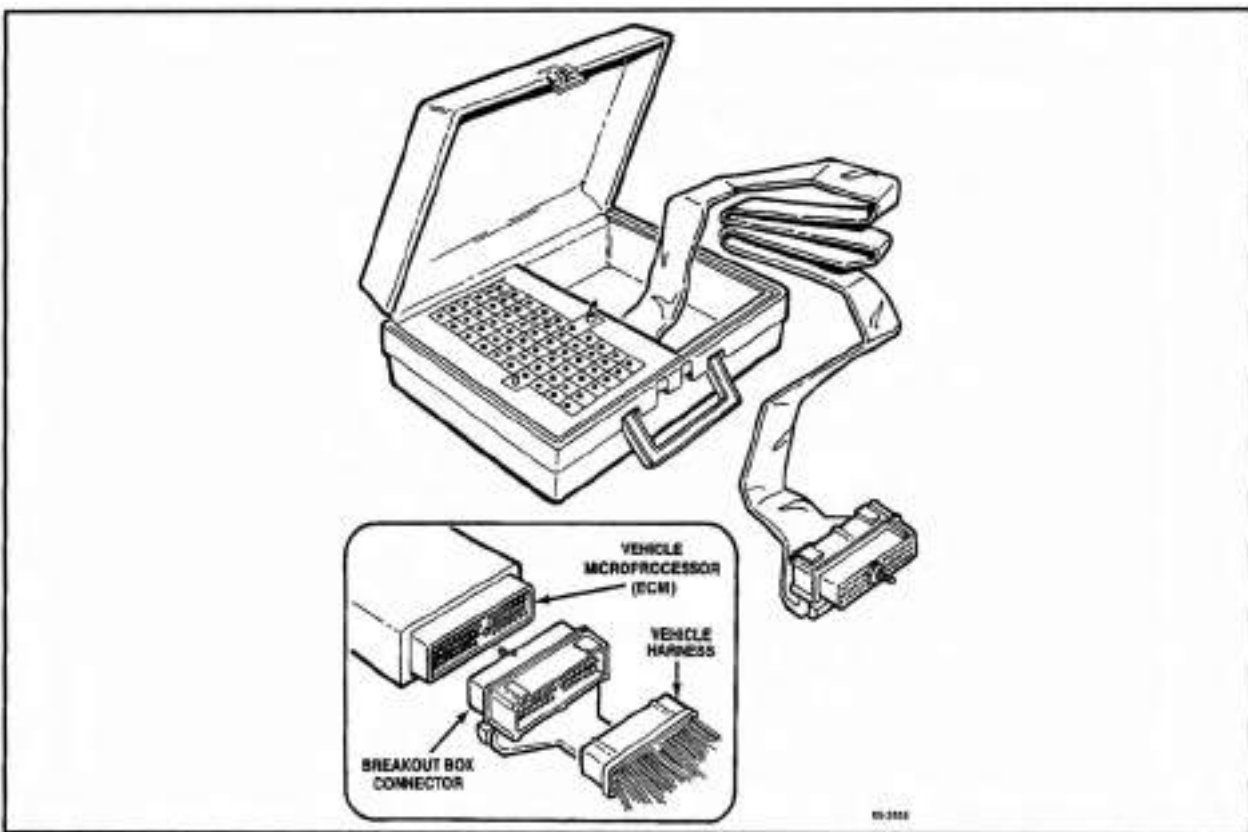

Figure 2.3-21. - Breakout Box (ZTSE-4346)
1. Connect breakout box at ECM. (Figure 2.3-21.)